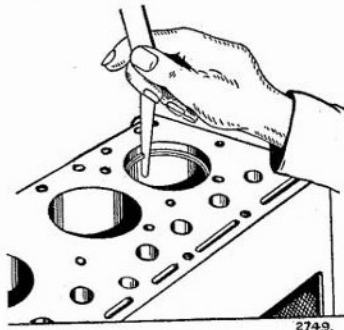

Fig. B.43. Checking the piston ring gap in the cylinder bore, using a feeler gauge
**4. Piston Ring Gaps and Clearances.** To check the piston ring gap, fit the piston ring to its respective cylinder bore so as it assumes a position at right angles to the axis of the bore. This is readily attained if the particular piston is inserted in the bore momentarily and the piston ring brought to rest on the crown of the piston, thus ensuring that the ring is square in the bore. Check the piston ring gap by means of a feeler gauge (see Fig. B.43), making sure that the rings checked in